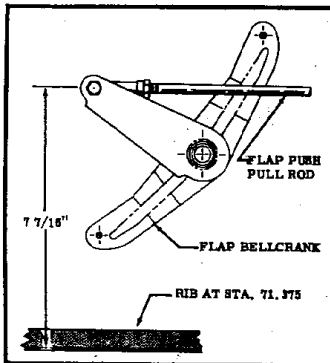

Figure 13. Flap Bellcrank Adjustment
Figures 13 to 19 incl. outline the control system including control travel limits, location of control stops, and the location of turnbuckles. The use of the single .040 brass wire for safetying of turnbuckles is satisfactory and CAA approved. Rigging method for the various systems is outlined below:
3. Adjust the flap push-pull rod until the flap bellcrank is in the position shown in figure 13.